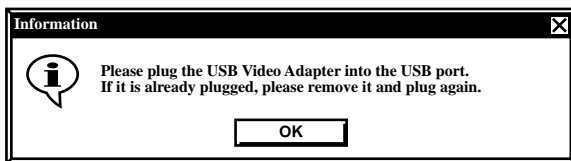

Figure 5-4. Information screen.
- When the screen shown in **Figure 5-4** appears, unplug the USB port and plug it back in again. Windows will detect it. Click **OK**.